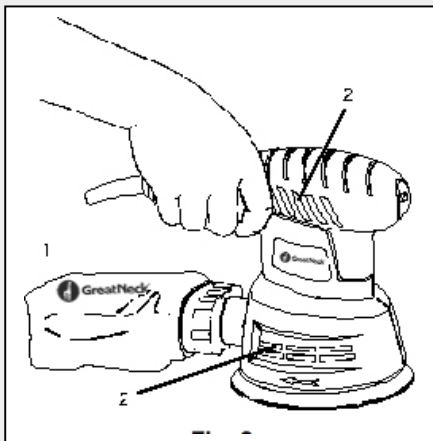

Fig. 8
**NOTE:** Hold the sander using the handle (1) on top of the sander (Fig. 8). Be careful NOT to cover the cooling vents (2) with your hand. Covering the cooling vents could cause the motor to be damaged by overheating.